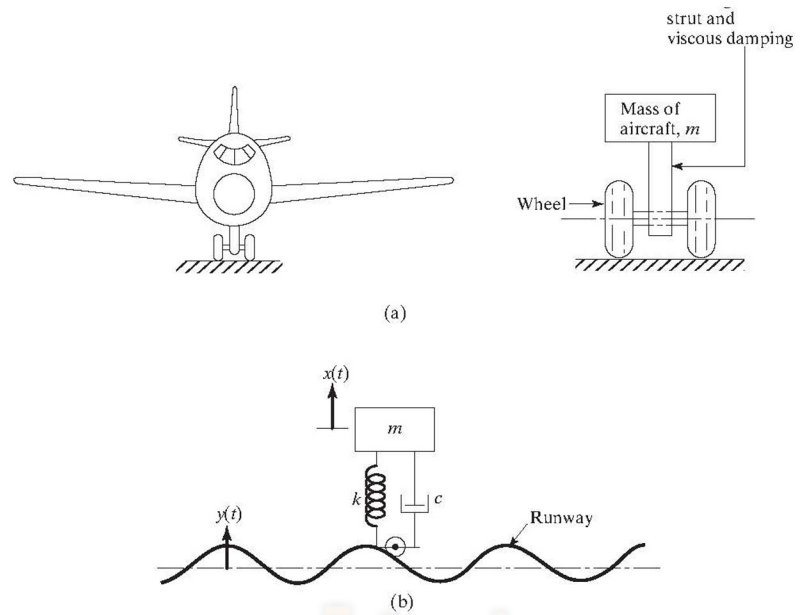

FIGURE 3.52 Modeling of landing gear.
- 3.44** The landing gear of an airplane can be idealized as the spring-mass-damper system shown in Fig. 3.52. If the runway surface is described  $y(t) = y_0 \cos \omega t$ , determine the values of  $k$  and  $c$  that limit the amplitude of vibration of the airplane ( $x$ ) to 0.1 m. Assume  $m = 2000$  kg,  $y_0 = 0.2$  m, and  $\omega = 157.08$  rad/s.